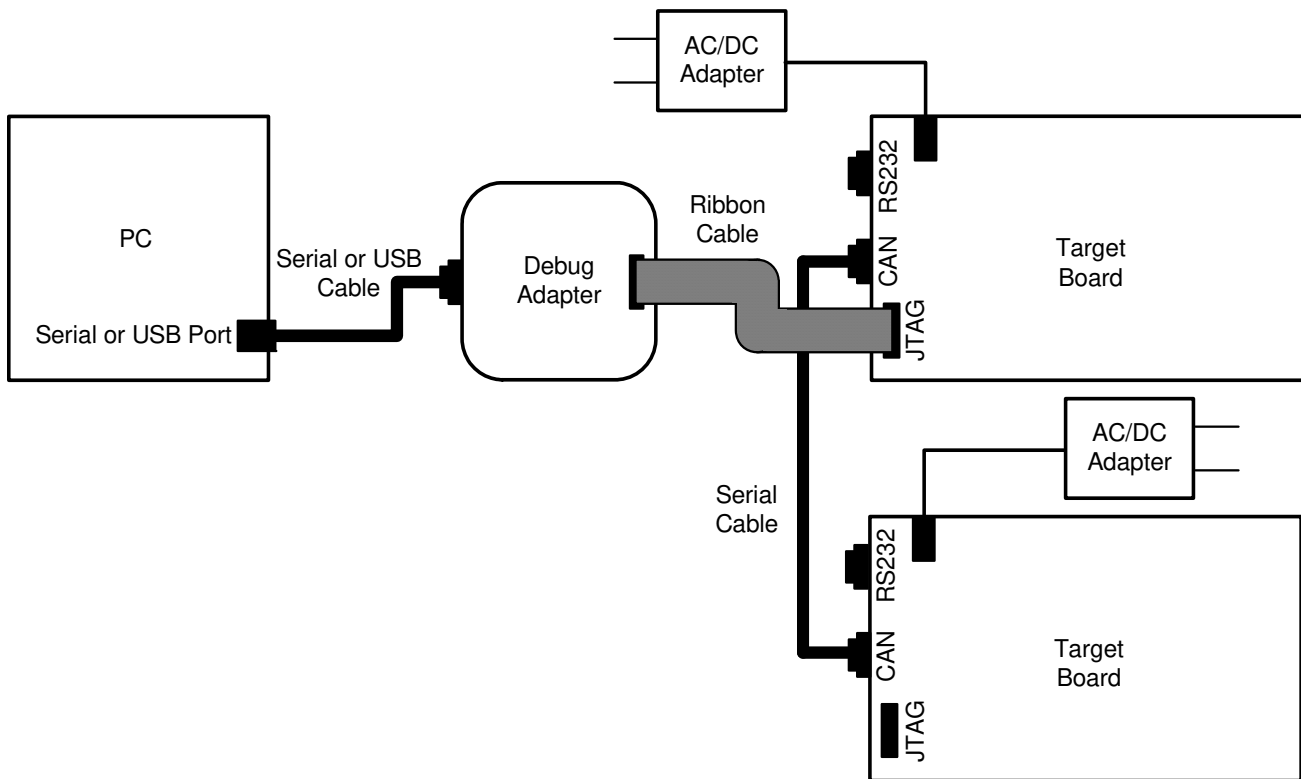
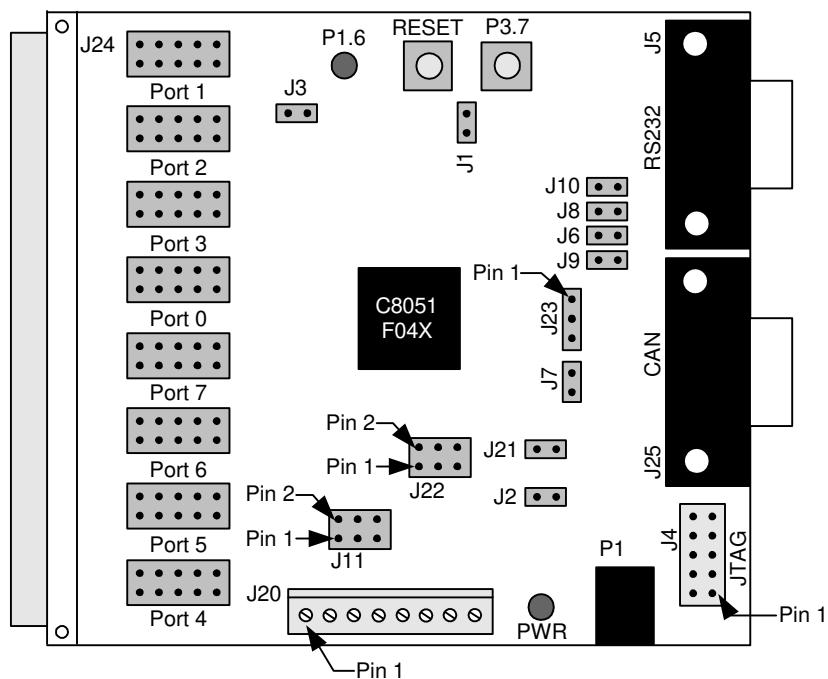

Figure 2. CAN Application Hardware Setup
Figure 3. C8051F040 Target Board
1. Connect the target boards together at the CAN DB-9 connectors using the CAN cable provided in the development kit, as shown in Figure 2 on page 6. The correct cable has a male connector on both ends. Take care not to connect the CAN cable to the RS232 DB-9 connector. See Figure 3 on page 7 for the location of the CAN DB-9 connector.
The C8051F04x Development Kit includes a target board with a C8051F040 device pre-installed for evaluation and preliminary software development. Numerous input/output (I/O) connections are provided to facilitate prototyping using the target board. Refer to Figure 3 for the locations of the various I/O connectors.